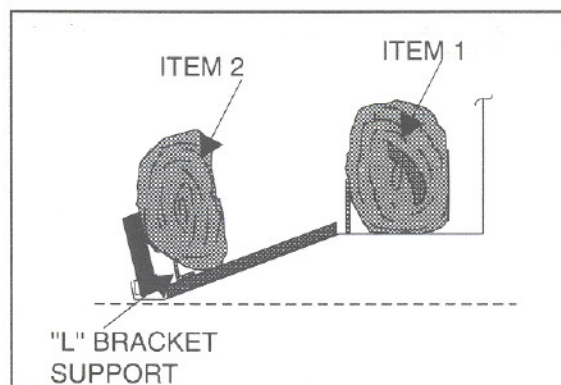
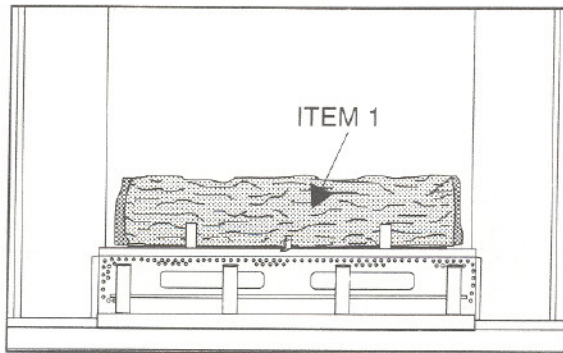

Figure 33
Figure 34
2. See Figure 34. Place the Back Log (Item 1) on the Back Log Support with the bow up, ensuring that the log is directly behind the sheet metal tabs. The flat surface of the log will be approximately 1/2" to 1" from the back of the firebox. (See Figure 33.)